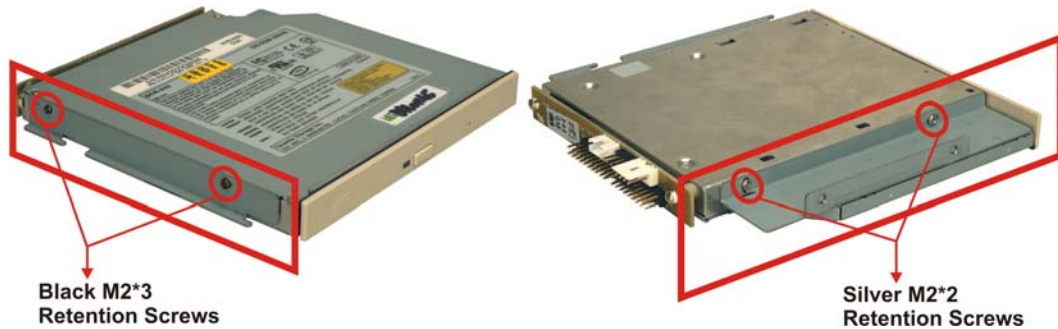

Figure 3-9: CD Drive Blank Plate Assembly
Step 7: Attach the two brackets to a CD drive with the four previously removed screws. Be sure to orient the brackets properly before attaching them to the CD drive. **Figure 3-9** shows two views of a CD drive with the brackets attached and the proper retention screws to use.
*The two screws (black M2*3) shown in the left image of **Figure 3-9** are different from the two screws (silver M2*2) shown in the right. Please secure the correct screws into the CD drive according to the images shown in the **Figure 3-9**.*